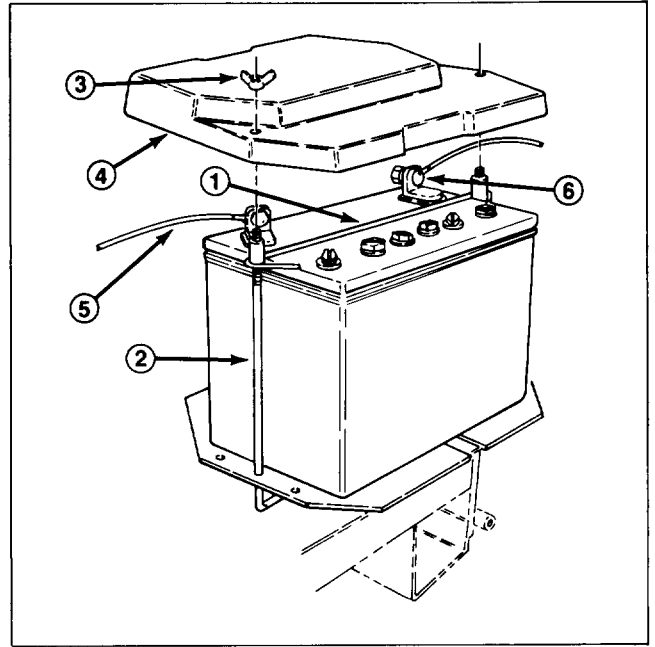

Figure 14
4. Position battery onto holders with terminal posts toward engine (Fig. 14).
6. Mount battery to holders with battery strap, (2) support rods, battery cover and (2) 1/4-20 wing nuts as shown in Fig. 14.